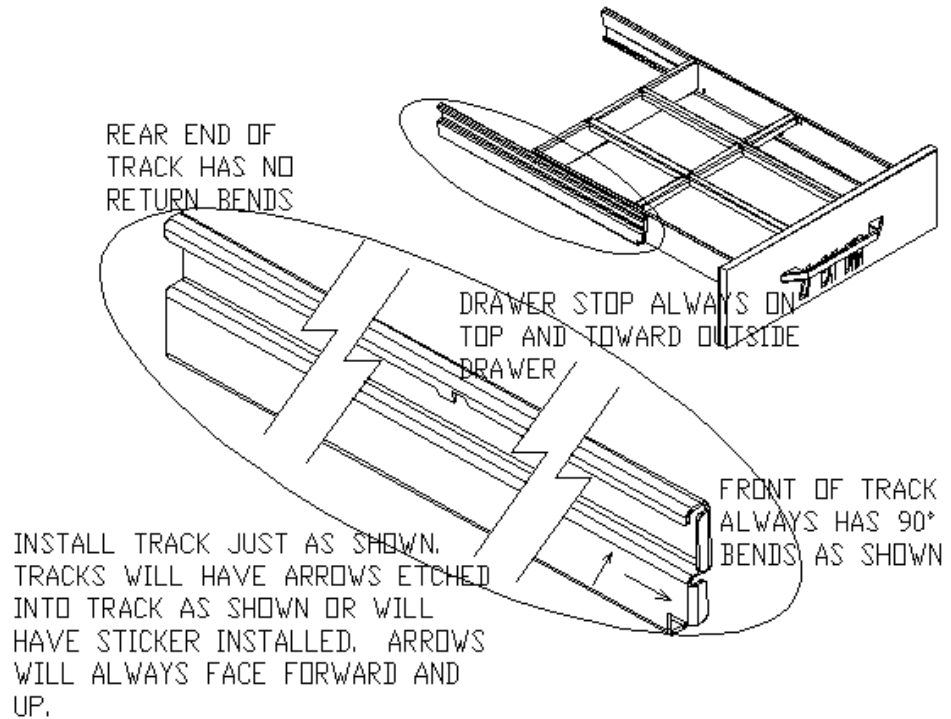

Figure 2
Your DPM series preparation table was equipped with a temperature adjustment control for the refrigerated rail (Figure 1). This is found behind the hinged door of the mechanical compressor housing. There is also a temperature adjustment control for the refrigerated base (Figure 2), which is located on the front exterior of the evaporator blower coil inside the lower cabinet.
**Figure 2** illustrates the evaporator blower coil assembly inside the lower refrigerated base. The thermostat adjustment knob is located at the top, front of the coil assembly.
To remove and re-install individual drawers and drawer tracks, please refer to Figure 2 below for proper installation instructions.